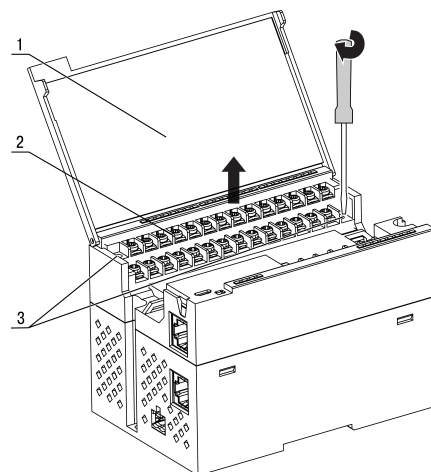

Fig. 5.2 Remove terminal block
Device replacement (Fig. 5.2):
Plug-in terminal block for power supply and removable terminal block for output connections enable quick and easy replacement of the device (see Fig. 5.2).
2. Remove the terminal blocks without disconnecting the connected wires (Fig. 5.2)